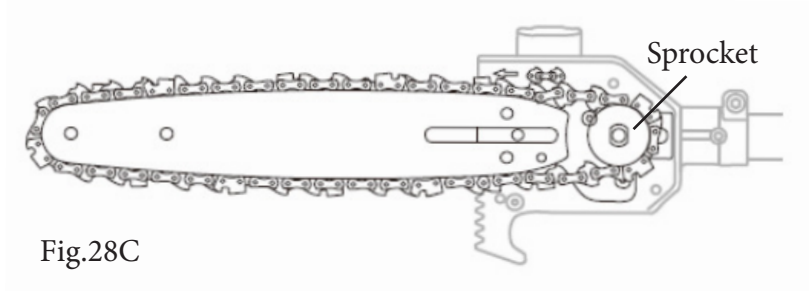

Fig.28C
- Place the saw chain around the sprocket with the cutting teeth corresponded to the direction of the symbol on the housing. (Fig.28C)